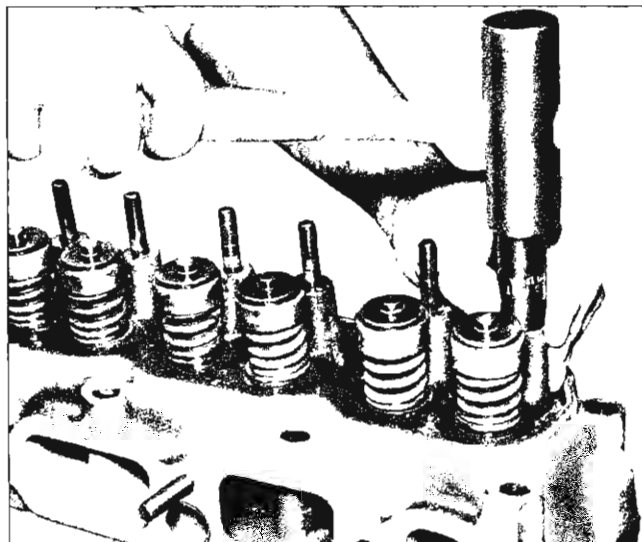

Fig. 19—Installing Rocker Arm Stud
3. Coat press-fit area of stud with hypoid axle lubricant. Install new stud using Tool J-6880. Tool should bottom on head (fig. 19).